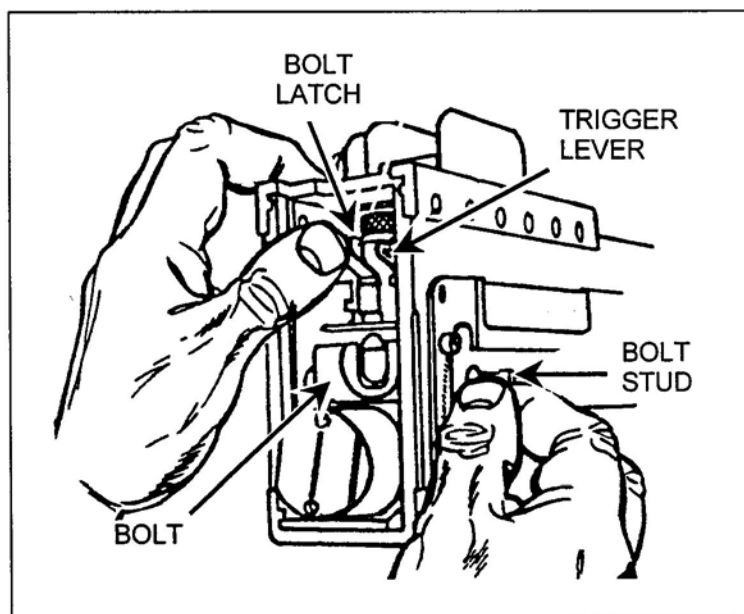

Figure 7. Unlatching the bolt.
- (2) If you accidentally move the bolt all the way to the rear, the bolt latch will engage in the bolt latch notches in the top of the bolt. If this occurs, raise the bolt latch and push the bolt forward to align the bolt stud with the clearance hole (Figure 7).